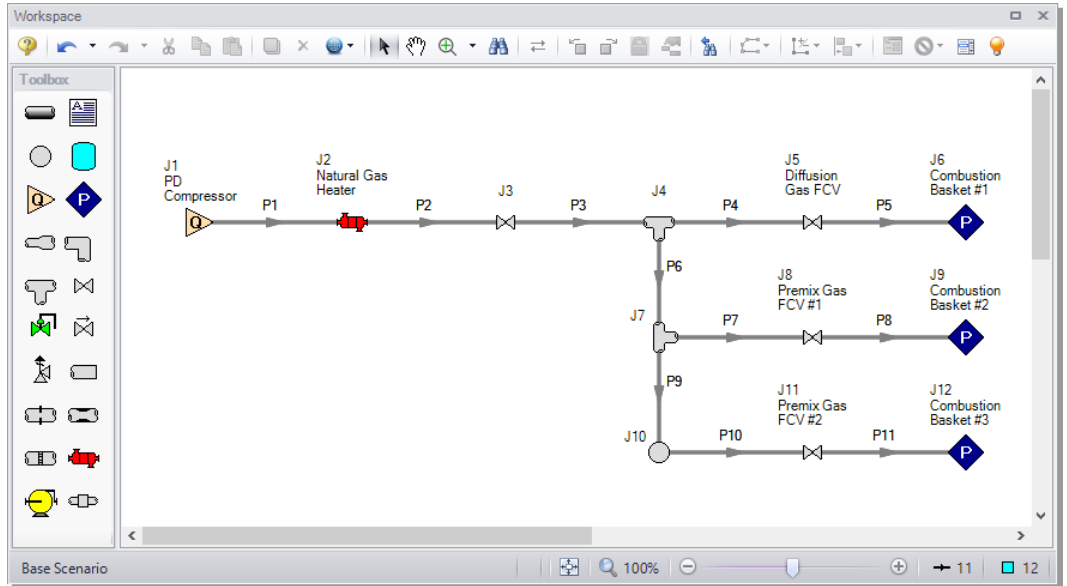

Figure 3.1 Layout of the system on the Workspace
- **In the Workspace window, assemble the model as shown in Figure 3.1.**